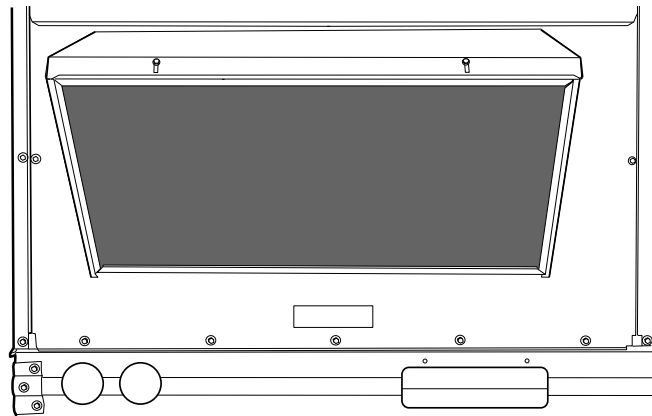

Fig. 26 — Filter Installed on Outdoor-Air Hood
11. Slide outdoor-air inlet screen into screen track on hood side plate. While holding screen in place, fasten screen retainer to hood using screws provided. See Fig. 26.